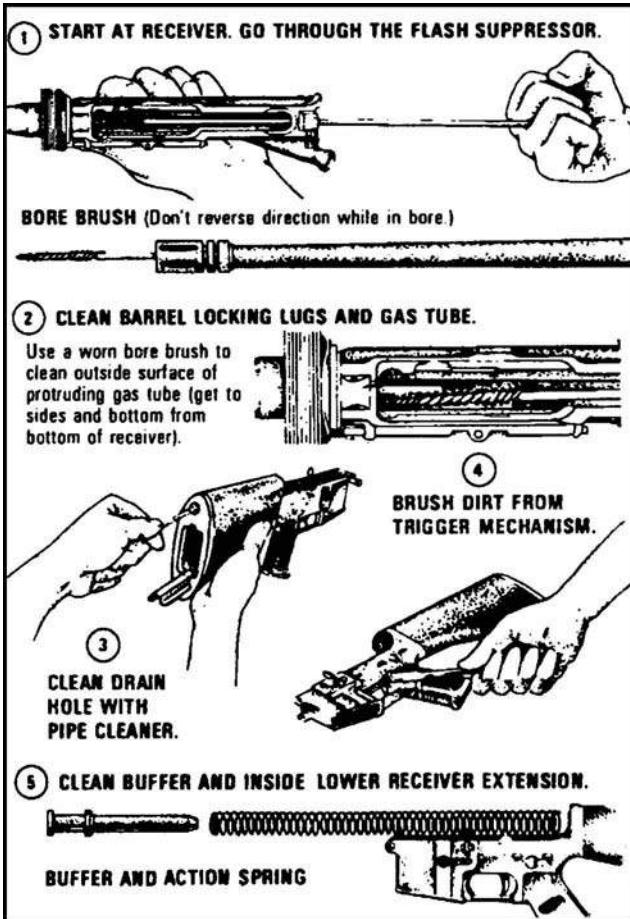

Figure 071-311-2025-21. Cleaning the receivers
- b. Clean the bolt carrier group, wiping the following parts with swabs and other parts from the small-arms maintenance equipment case (figure 071-311-2025-22).